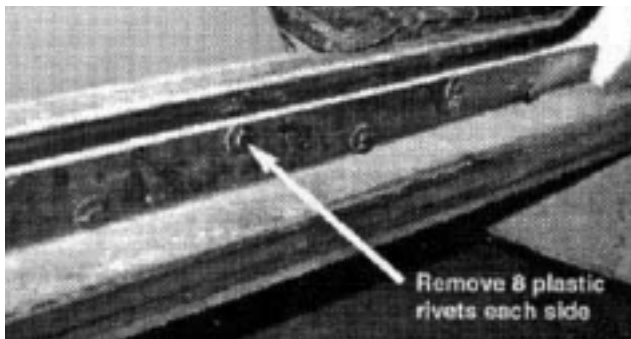

Fig. 1
1. Remove plastic rivets from finisher sill (see fig 1)